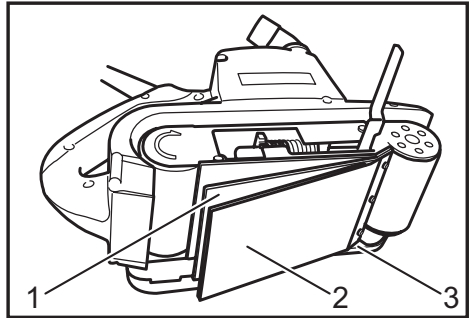

Fig.7
► Fig.7: 1. Steel plate 2. Carbon plate 3. Strap washer